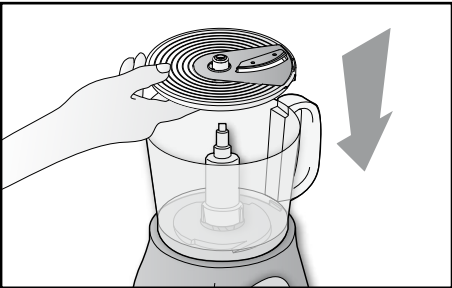

Fig. 10
- Fit the assembled blade support disc (r) on the motor shaft (C), gripping it by the relevant slots and keeping the blade so it is facing upwards (Fig. 10).
- Fit the lid (E) over the bowl (D) and proceed as described in the section "Chopping, mixing or whisking".